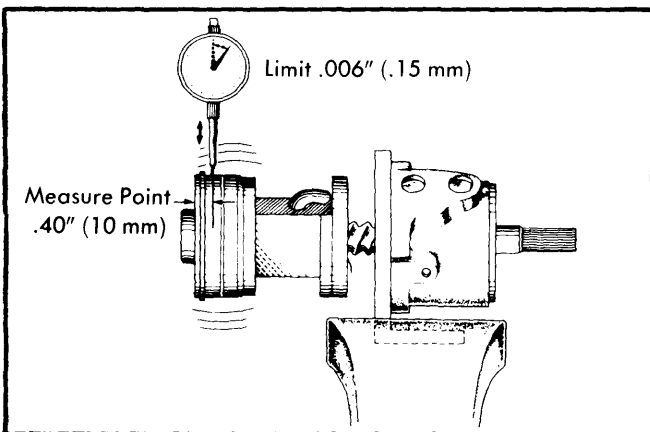

Fig. 6 Using Gauge to Check Ball Clearance
4) Install a dial gauge at a point .40" (10 mm) in from end of power piston nut. Measure play by moving nut side to side. If play exceeds .006" (.15 mm), replace valve assembly and nut (See Fig. 6).